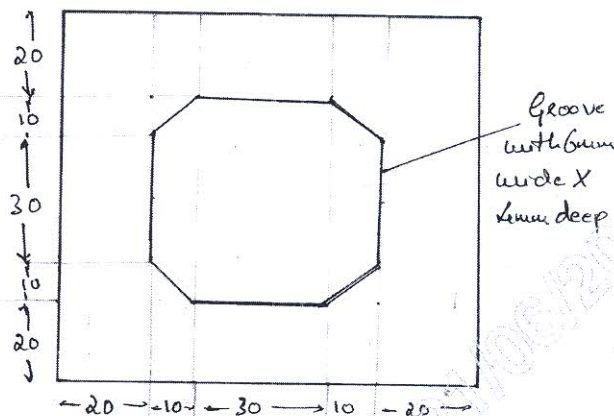

Fig.Q7(b)
- b. Write a manual part programme for machining the profile as shown in the Fig.Q7(b)? (07 Marks)